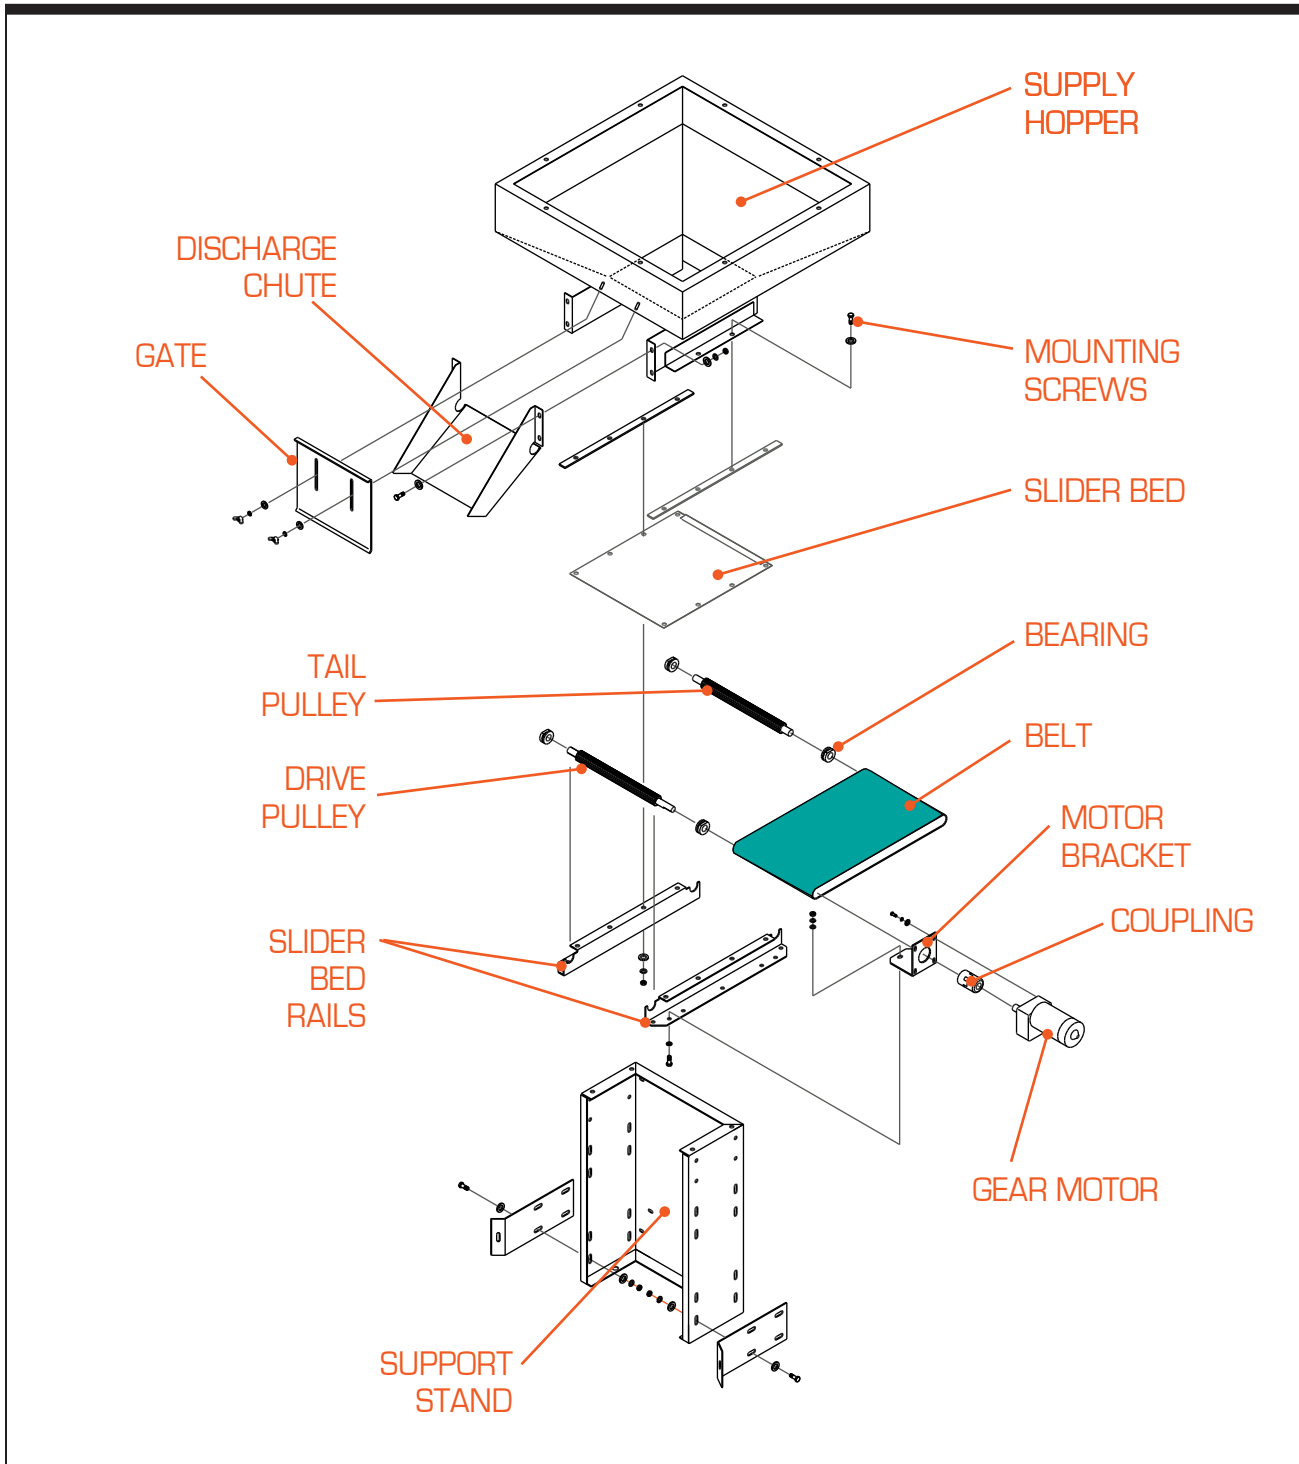
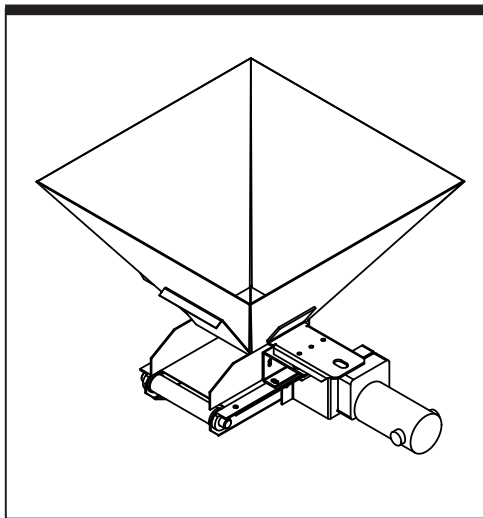
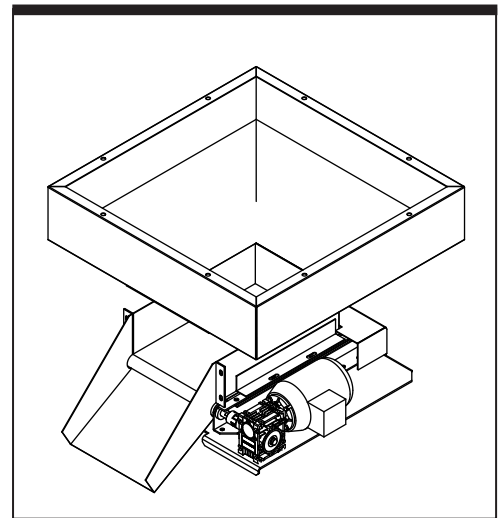

Figure 1-1. LB-03 Overhead Prefeeder (DC Motor) - Exploded View
Figure 1-2. LB-01 Overhead Prefeeder
Figure 1-3. LB-03 Overhead Prefeeder
**Function** The LB Series overhead prefeeders are designed to load small to medium parts and are engineered to interface directly with smaller style feeders. The LB-01 prefeeder (Figure 1-2) has a 1 cubic foot hopper, while the LB-03 (Figure 1-3) and LB-06 have a 3 and 6 cubic foot hopper, respectively. See Figure 1-1 for an exploded view of the LB-03.